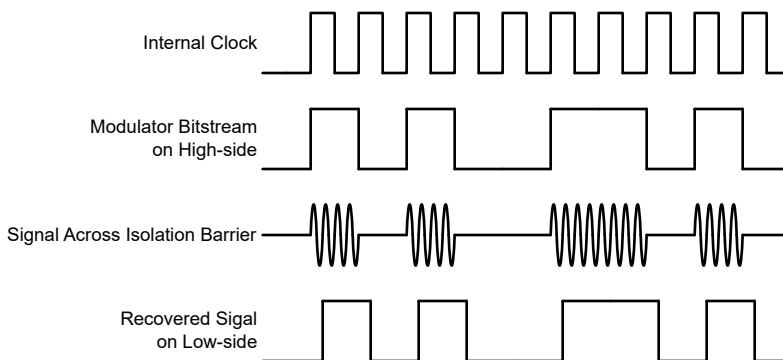

Figure 7-1. OOK-Based Modulation Scheme
As shown in Figure 7-1, the AMC0381D uses an on-off keying (OOK) modulation scheme to transmit the modulator output bitstream across the SiO₂-based isolation barrier. The transmit driver (TX) is illustrated in the Functional Block Diagram. TX transmits an internally generated, high-frequency carrier across the isolation barrier to represent a digital one. However, TX does not send a signal to represent a digital zero. The nominal frequency of the carrier used inside the AMC0381D is 480MHz.